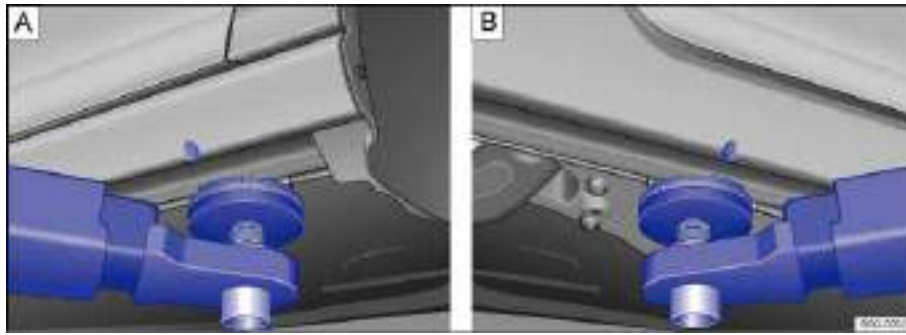

Fig. 175 A: Lifting point at the front. B: Lifting point at rear for lifting the vehicle using a workshop hoist or floor jack.
The vehicle may only be raised at the lift points shown in the illustration ⇒ fig. 175. If the vehicle is lifted at different points, vehicle damage ⇒ ⚠ and serious injuries may occur ⇒ ⚠.
- Always lift your vehicle only at the designated lift points shown in the illustration ⇒ fig. 175. Not using the designated lift points can cause the vehicle to fall off the floor jack when heavy parts such as the engine or transmission are removed.